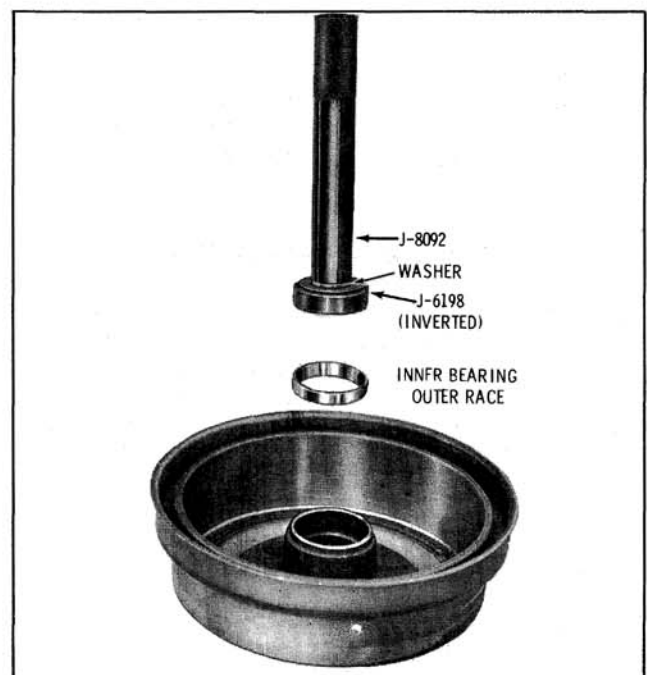

Fig. 9-106 Installing Inner Bearing Race
1. If the outer races were removed, drive or press the races into the hub as shown in Figs. 9-106 and 9-107.